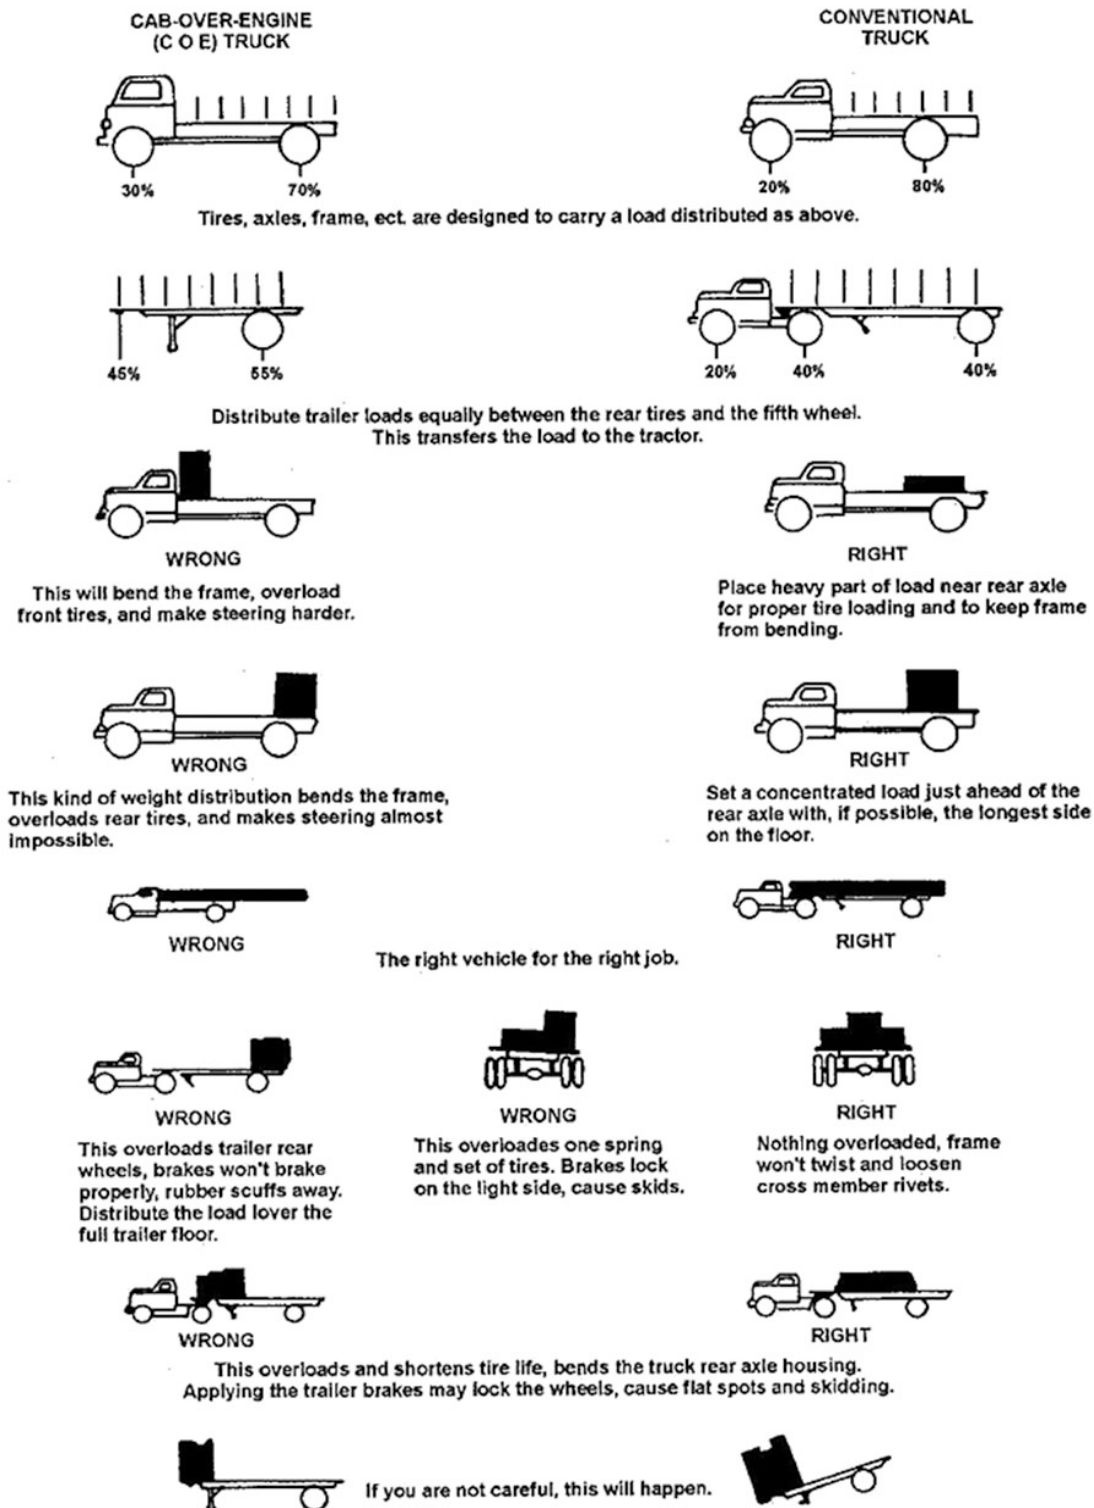

Figure 2-9. Distribution of loads over vehicle bed.
Before you even think about loading a vehicle, you need to know its weight capacity. You can get this information from the manufacturer's specification plate or from the operator's manual. At times other people will load your vehicle. Since you'll be held accountable for the materials and equipment you haul, you should stay with your vehicle to make sure it's loaded properly. Proper loading includes proper weight distribution. Keep in mind, the vehicle's capacity doesn't have to be reached to overload it. Figure 2-9 illustrates many examples where the placements of a concentrated load in one certain area can cause a vehicle to be overloaded. If the load is unbalanced, it could damage the vehicle or in some cases cause the vehicle to overturn. In addition to the examples in figure 2-9, one loose or improperly loaded piece of equipment may release an entire load or damage the cargo.
- Distribute the load evenly over the bed of the vehicle or on the trailer. Most loads are heavy enough to damage the vehicle or cause difficult handling if not properly distributed. Look again at figure 2-9 for the right and wrong ways of distributing loads.